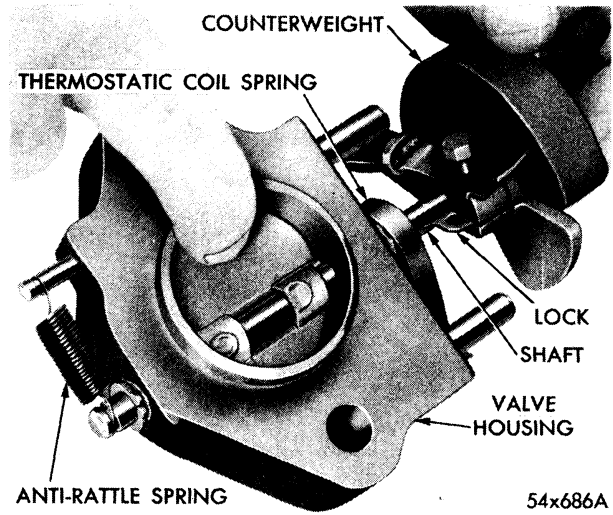
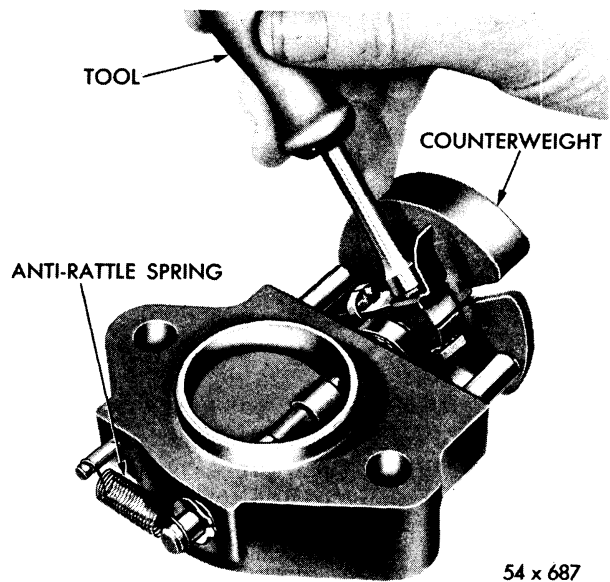

Fig. 15—Installing Heat Control Valve Counterweight
Fig. 16—Tightening Counterweight Bolt with Tool T-109-173
- (3) Place counterweight over shaft (with the shield in upward position) and insert lock in shaft slot, as shown in Figure 15.
- (4) Center counterweight on shaft and turn assembly clockwise until stop passes the pin.
- (5) Press counterweight on shaft until seated, install stop, and tighten nut securely with Tool T-109-173, as shown in Figure 16. Test valve for proper operation.